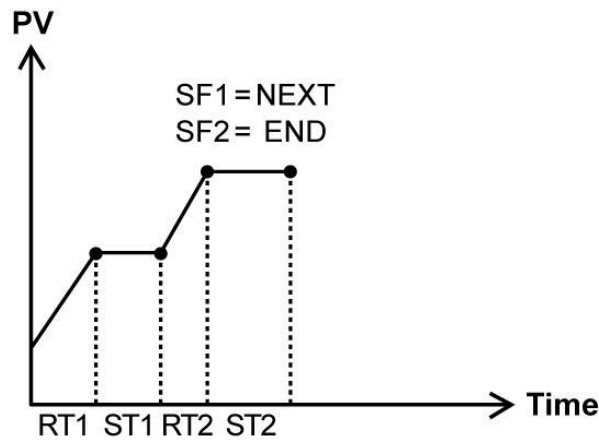

Figure 5. SF1=NEXT and SF2=END
- Next: Continue to next segment. Refer to figure 5.
- End: End of profile. Refer to figure 5.